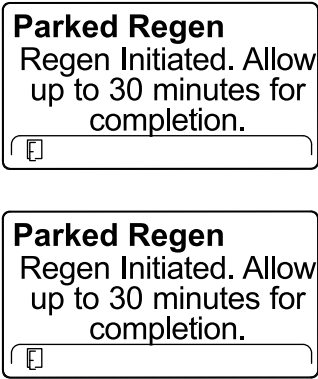

Figure 57
6. The InfoCenter displays the time to complete message (Figure 57).